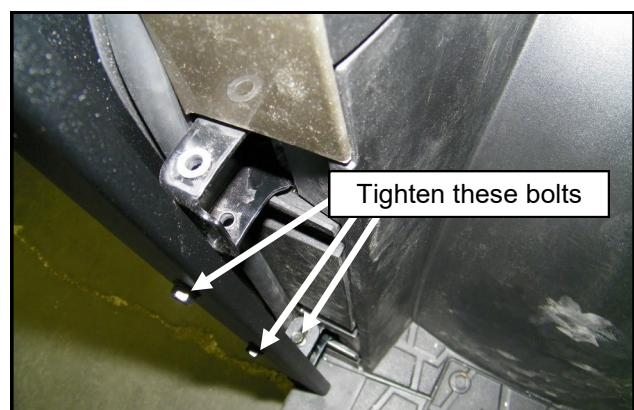

Fig. 15.3 A-pillar lower bracket
**15.3** Per figure 15.3, tighten the (2) 1/4-20 bolts holding the lower tab to the A-pillar, tighten the lower bolt to the vehicle door hinge mount.